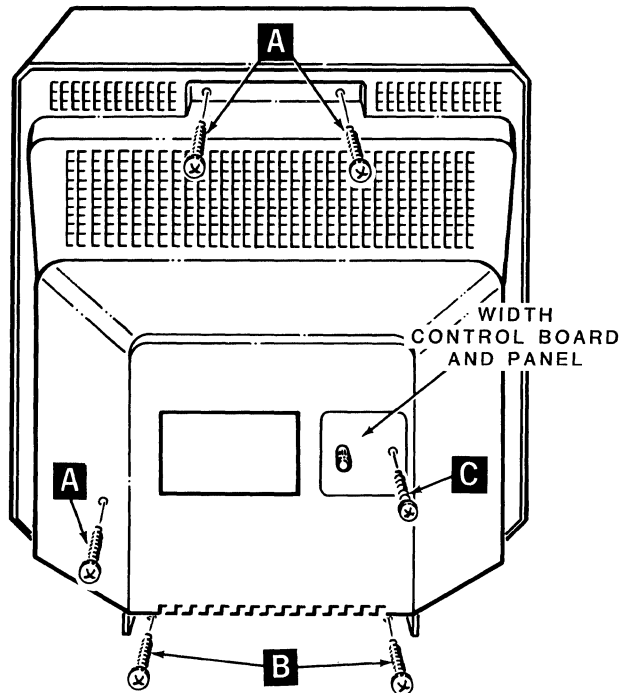

Figure 6.1
1. Refer to Figure 6.1 and position the monitor as shown. Remove the three 8-18 x .625" screws at A from the back top and rear of the cabinet.